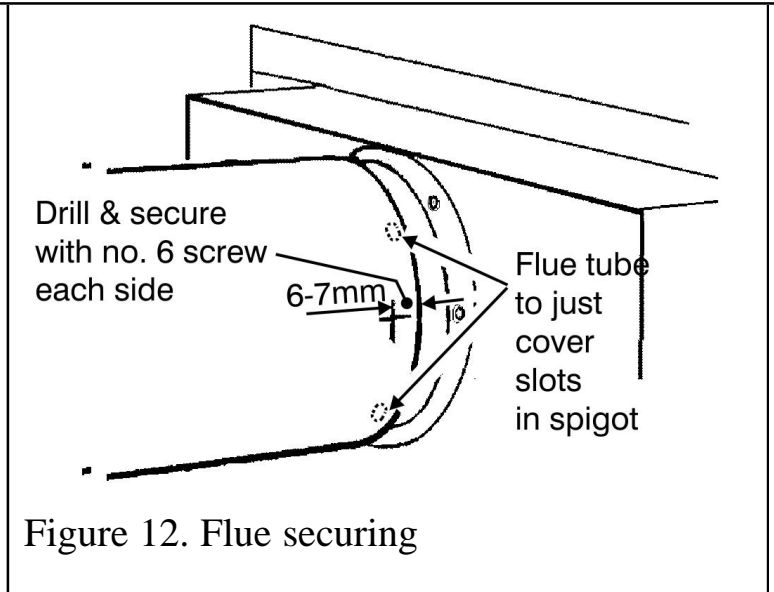

Figure 12. Flue securing
- Fit the flue tubes firmly over the spigots at the rear of the fire. Make sure that the seam on the flue tube is not at the bottom. Push on until the outer (air) tube just covers the slots in the appliance outer spigot (See figure 12).
- Secure the flue to the fire by drilling through the outer flue tube and outer spigot at a distance of between 6mm & 7mm from the cut end of the outer flue tube and securing with the two no.6 self tapping screws supplied (See figure 12).